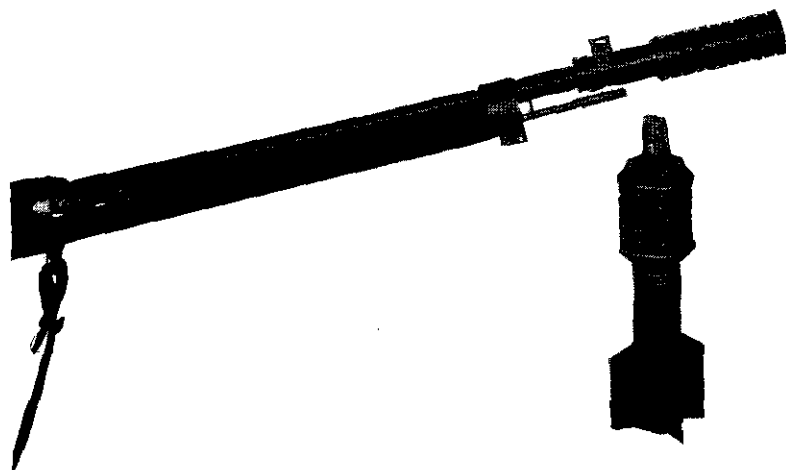
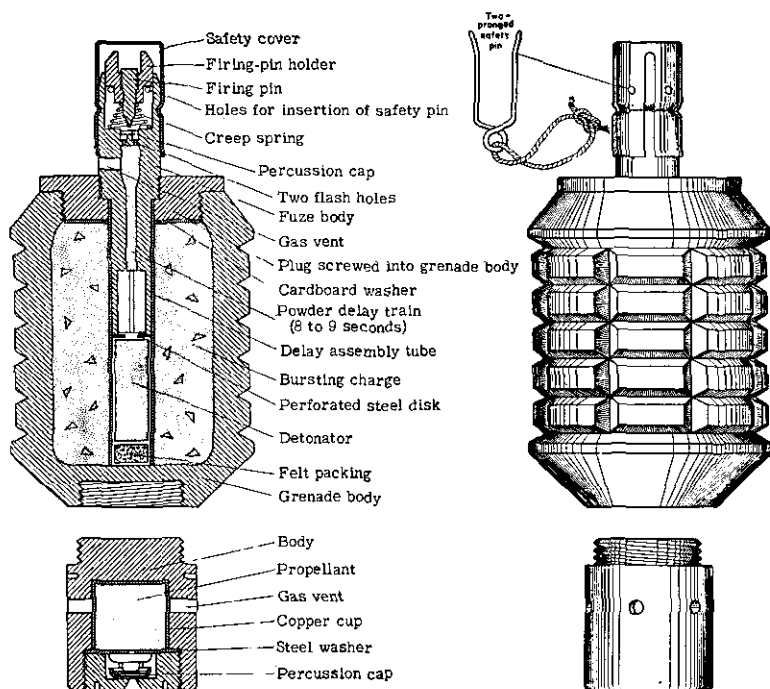

Figure 24.—High-explosive rifle grenade and spigot-type grenade launcher.
Figure 29.—Model 91 (1931) hand grenade.
(c) *Spigot-type.*—The spigot-type launcher (fig. 24) also fits over the muzzle and is locked behind the front sight of the rifle. Two types of grenades used in the spigot-type launcher are the high-explosive grenade and the smoke grenade.
The high-explosive rifle grenade (figs. 24 and 25) resembles the Model 91 (1931) hand grenade (par. 10, p. 45) except that it has a fin assembly instead of the propelling charge. The exact manner of operating this rifle grenade is not known. It is thought that the rifle grenade is placed over the spigot, the safety pin pulled, and a special cartridge with a wooden projectile fired in the rifle. Setback probably causes the firing pin to
The Model 91 (1931) hand grenade (figs. 29 and 30) can be either fired from the Models 10 (1921) (par. 19, p. 68) and 89 (1929) (par. 20e (2), p. 81) 50-mm grenade dischargers or thrown by hand. It can also be modified for use as a rifle grenade by substituting a tubular tail fin assembly for the propellant container (see par. 8g (2) (c), p. 36, and fig. 24, p. 37).